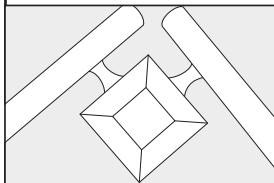

Fig. 7
1. Dry fit the two handrail lineals. The handrail lineals to be joined should extend far enough to allow for scribing and final cutting (Fig. 7).